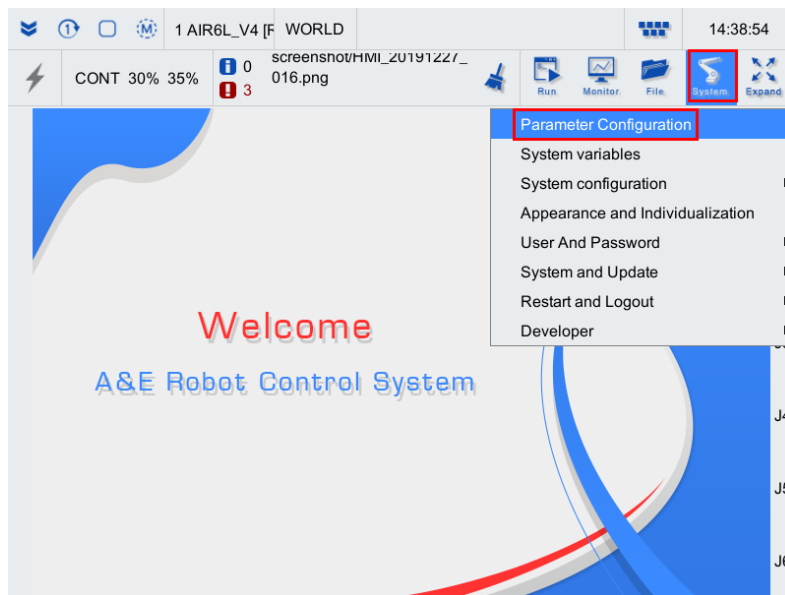

Fig. 4-17 Main interface of teach pendant
Step 1. On the main interface of the teach pendant, click "System"->"Parameter Configuration" option, as shown in Fig. 4-17.